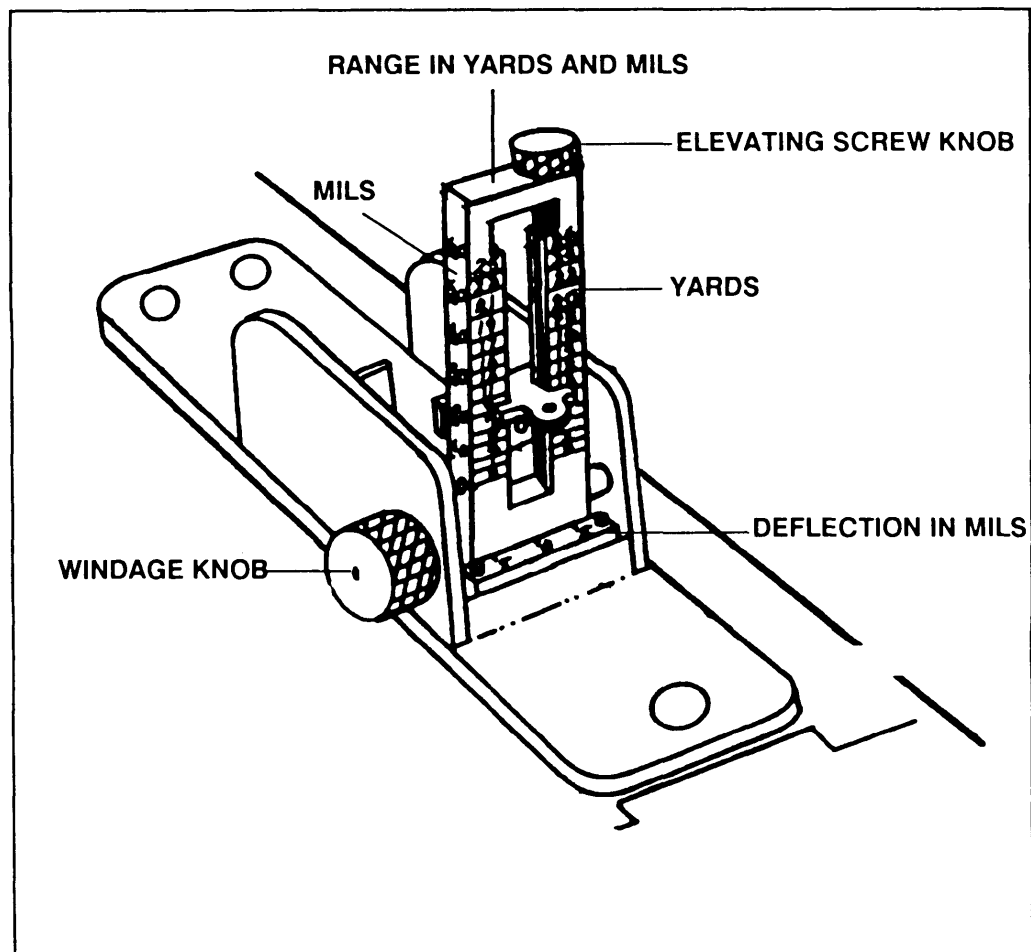
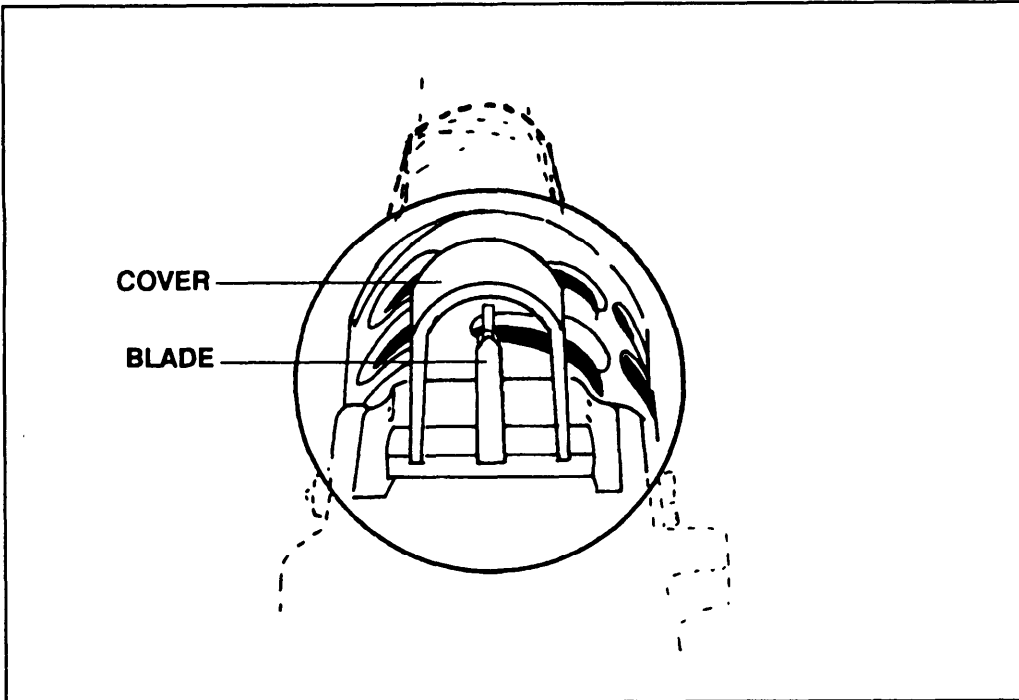

Figure 1-3. Leaf type rear sight.
Figure 1-4. Front sight, cover, and blade.
b. The gun has a leaf-type rear sight (Figure 1-3), graduated in both yards and mils. The scale ranges from 100 to 2,600 in yards, and from 0 to 62 in mils. The windage knob-permits deflection changes to right or left of center. The front sight is a fixed blade type with cover (Figure 1-4).